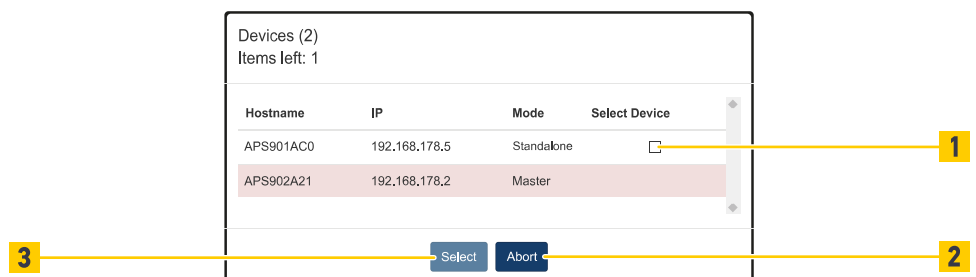

Fig. 93: Select slave devices
- To select a slave device mark a device (Fig. 93 /1). Select the slave devices you need and click the Select button (Fig. 93 /3).
- To leave the window without selecting a device click the Abort button (Fig. 93 /2).